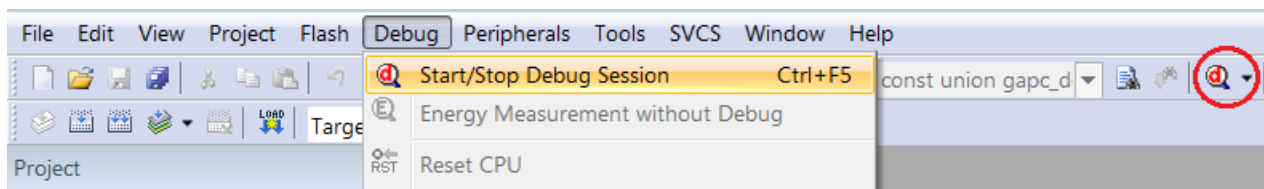

Figure 24. Start/Stop Debug Session Icon
2. Select **Debug > Start/Stop Debug Session** or click the icon shown in the figure "Start/Stop Debug Session Icon" (Figure 24).